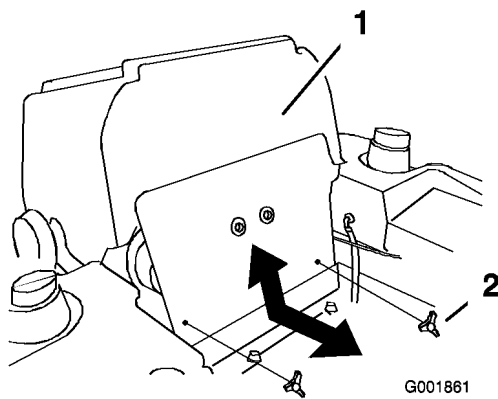

Figure 66
3. Tilt the seat forward and remove the front engine panel (Figure 66).
7. Install the front engine panel (Figure 66).